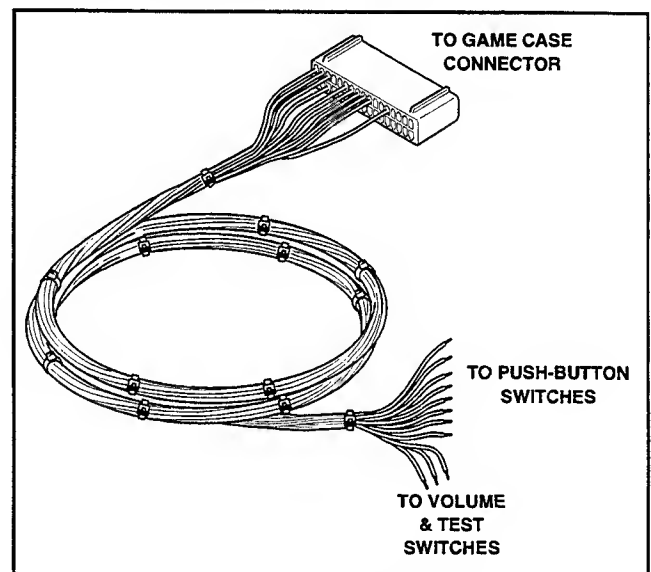

**FIGURE 4**
17. Install the joysticks on the control panel as shown in Figure 4.